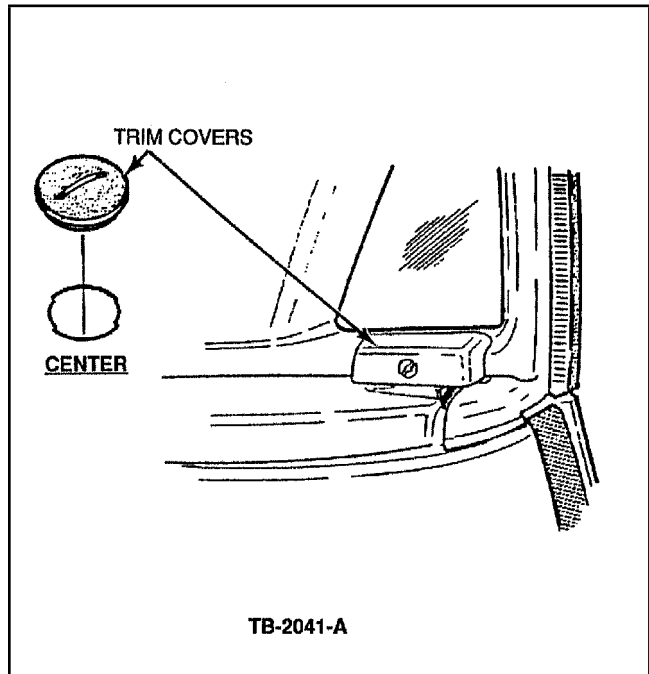

Figure 12 - Article 91-20-2
21. Install 'B' Pillar trim covers and center trim button into right hand storage area underneath the right hand trim cover, Figure 12.
23. Install the trim covers, supplied loose in kit, over the hardtop rear retaining bolts, Figure 12. They are stored under the hardtop 'B' Pillar trim cover on the passenger side.